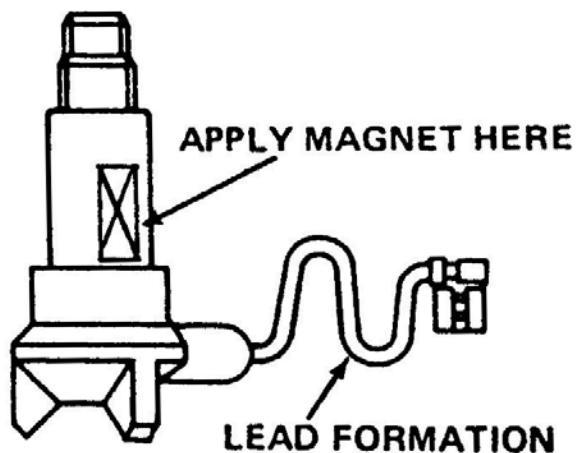

Figure 6
It has been discovered that some D2000 Magneto Capacitors P/N 10-382681 (6 cyl.), 10-382681-1 (8 cyl.) and 10-382807 (4 cyl.) have brass tubular housings. It is recommended that the brass housing capacitors be identified, removed from service and replaced with the steel housed capacitors. (Figure 6 illustrates the method for identifying capacitors with brass housings.)
1. Reinstall the capacitors in the magneto cover forming the leads as shown in figure 6. Torque the capacitor securing nuts to 60-75 inch pounds.
2. Apply the magnet to the housing just above the upper edge of the rubber stabilizing boot as shown in figure 6.